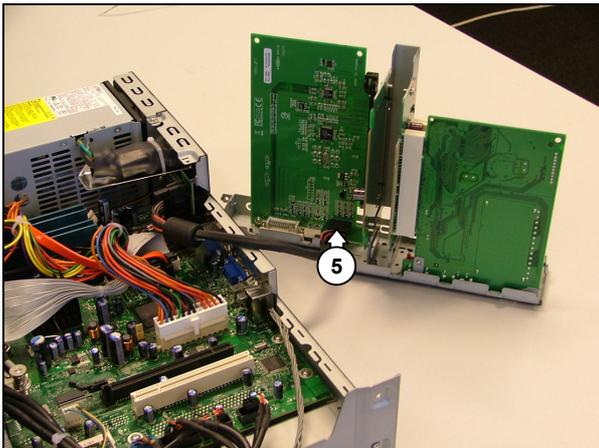

Figure 12.5-3
5. Disconnect the SCART cable (5) from the ADD2 Graphics card. See Figure 12.5-3.